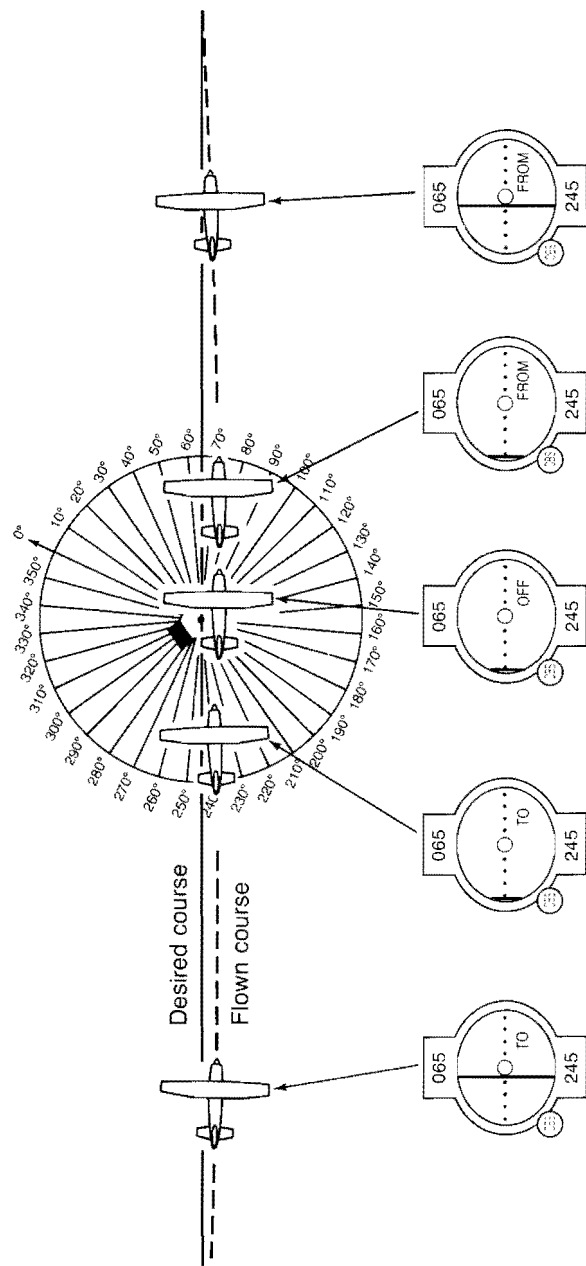

Figure 17. VOR Passage
1. Select a VOR station that you want to fly past (TO on the selected radial and FROM on a radial of about 180 degrees difference). Tune it in, and fly TO it. Refer to Figure 17.